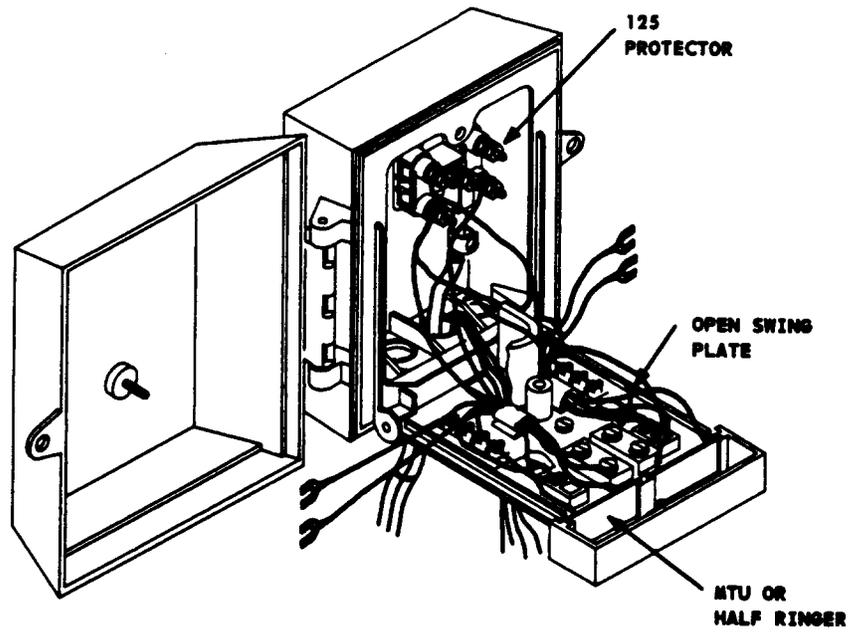

Figure 8. 401 NIU With Swing Plate Open
- (5) Open the swing plate using the KS-19191, L1 security tool to gain access to the protector (Figure 8).